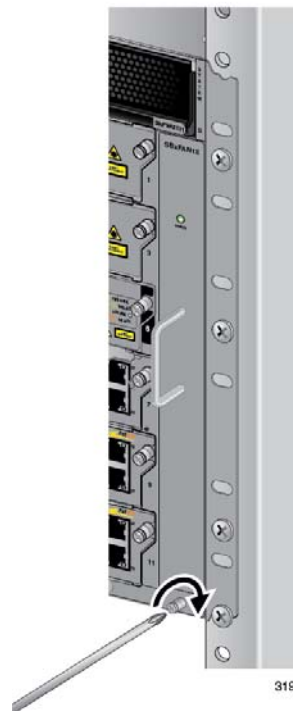

Figure 176. Tightening the Screw on the AT-SBx31FAN12 Fan Module
3. With a #2 Phillips-head screwdriver, tighten the screw at the base of the module to secure the module to the chassis. Refer to Figure 176.